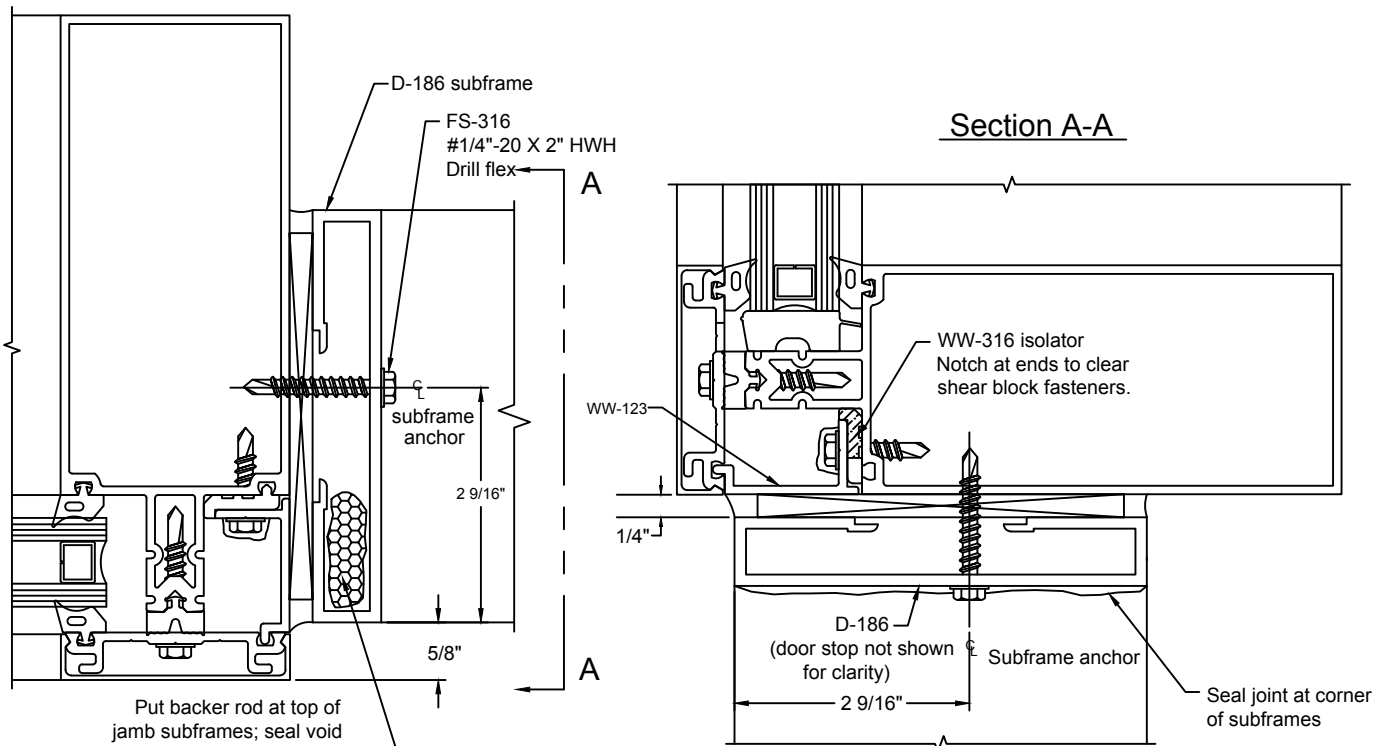

Figure 32
- C.2.3 Bed subframes in sealant. Anchor to curtain wall framing members with FS-322 #12 x 1" HH STS at 18" O.C. Cap seal all fasteners and seal joint between jamb and header subframes. Seal tops of the jamb subframes. SEE FIGURE 32, page 36.